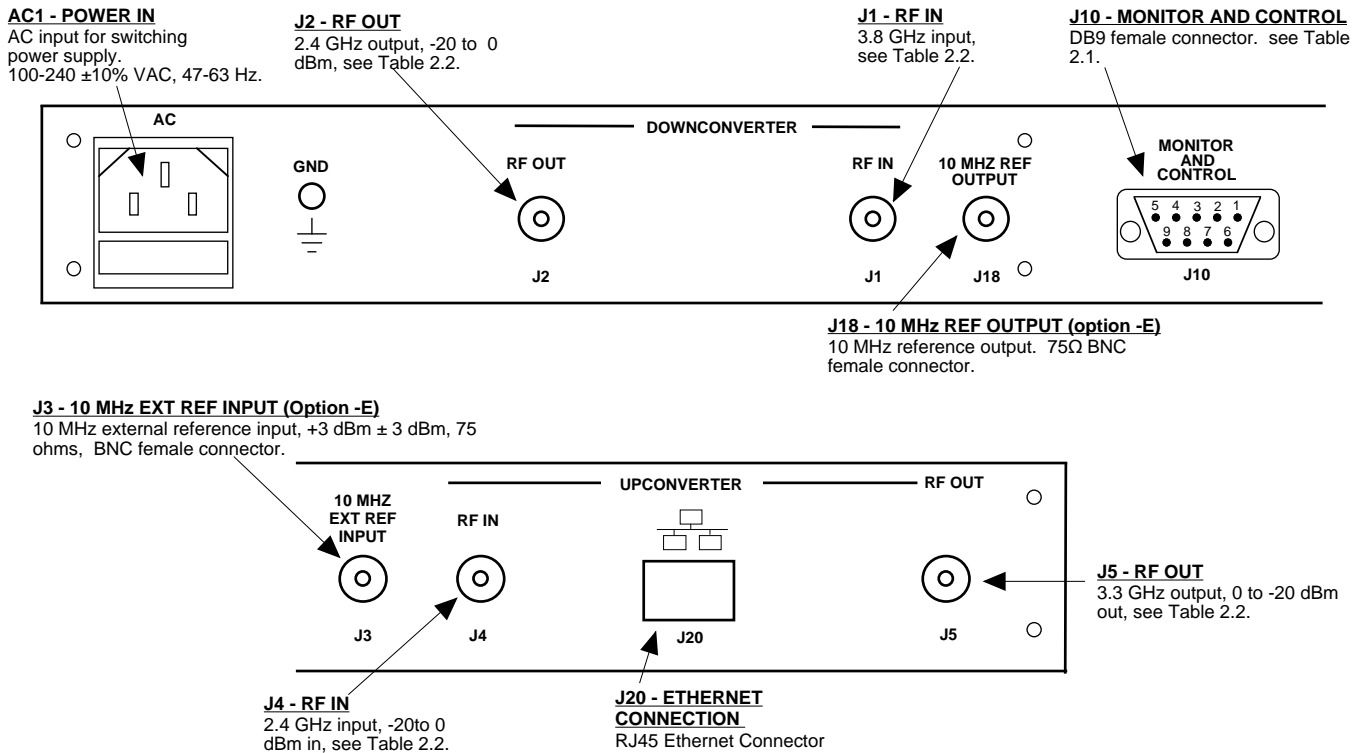

Figure 2.1 Model 2017-3338# Rear Panel I/O's
2.2 Rear Panel Input/Output Signals and Control - Figure 2.1 shows the input and output connectors on the rear panel.
- 1.) Connect a -20 dBm to 0 dBm signal to RF In, J4 (Figure 2.1).
- 1.) Connect a -40 dBm to -20 dBm signal to RF In, J2 (Figure 2.1).